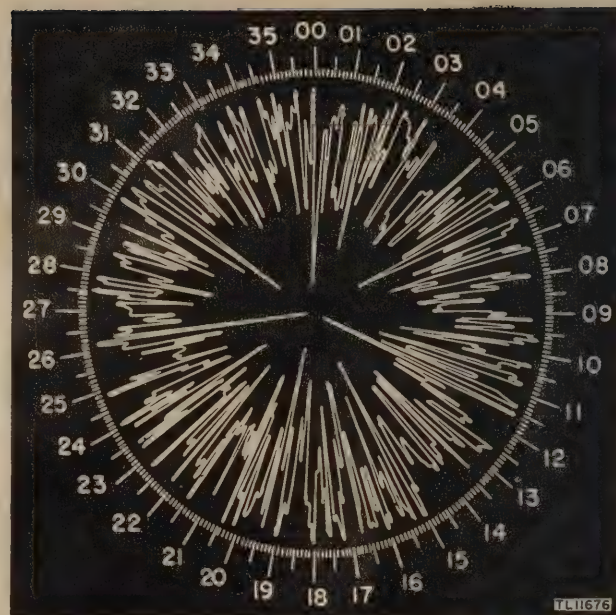

Figure 112. Bearing indicator pattern, extremely weak signal.
- (7) *Extremely weak signal* (fig. 112). When extremely weak signals are received, the noise pattern usually wipes out all trace of the signal pattern, and it is impossible to take bearings.